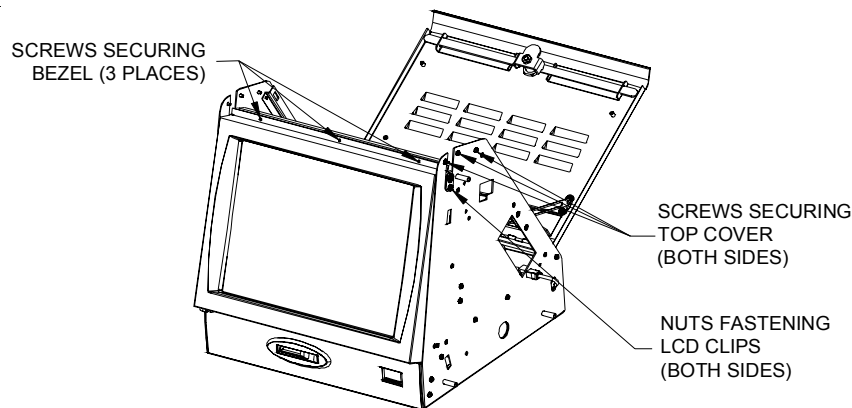

FIGURE 7 - FORCE ELITE - FRONT BEZEL REMOVAL
7. Remove the 3 screws at the top of each side piece fastening the top cover to the game (see Figure 7) and remove the top cover.
8. Loosen the 5/16" nuts securing the 2 LCD clips (one on each side piece). See Figure 7.
10. Remove the 3 screws on top of the front bezel (see Figure 7) and separate the bezel from the monitor.
16. Reattach the front bezel to the monitor with the 3 screws removed earlier. See Figure 7.
18. Tighten the nuts securing the 2 LCD clips. See Figure 7.
20. Replace the 3 screws at the top of each side piece. The shorter screw will go in the screw hole closest to the rear of the game. See Figure 7.